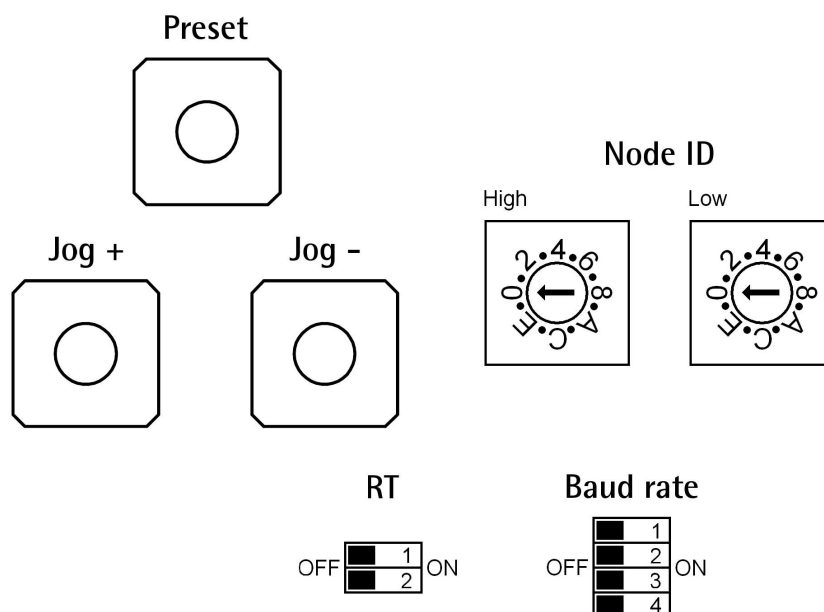

Figure 5: Dip-Switches and buttons
4.4 Dip-Switches and buttons (Figure 5)
4.4.1 Setting the node address: Node ID (Figure 5)
4.4.2 Setting data transmission rate: Baud rate (Figure 5)
4.4.3 RT bus termination (Figure 5)
4.4.4 JOG + and JOG – buttons (Figure 5)
4.4.5 PRESET button (Figure 5)